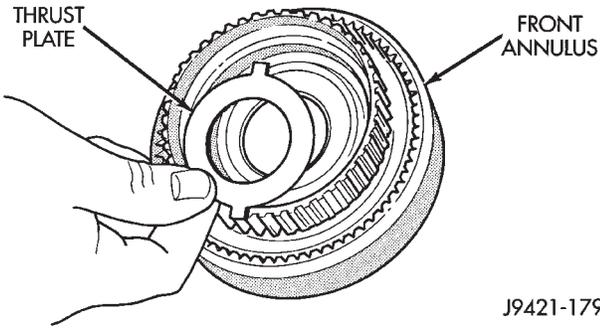

Fig. 203 Positioning Thrust Plate On Front Annulus Support
(18) Position thrust plate on front annulus gear support (Fig. 203). **Note that plate has two tabs on it. These tabs fit in notches of annulus hub.**